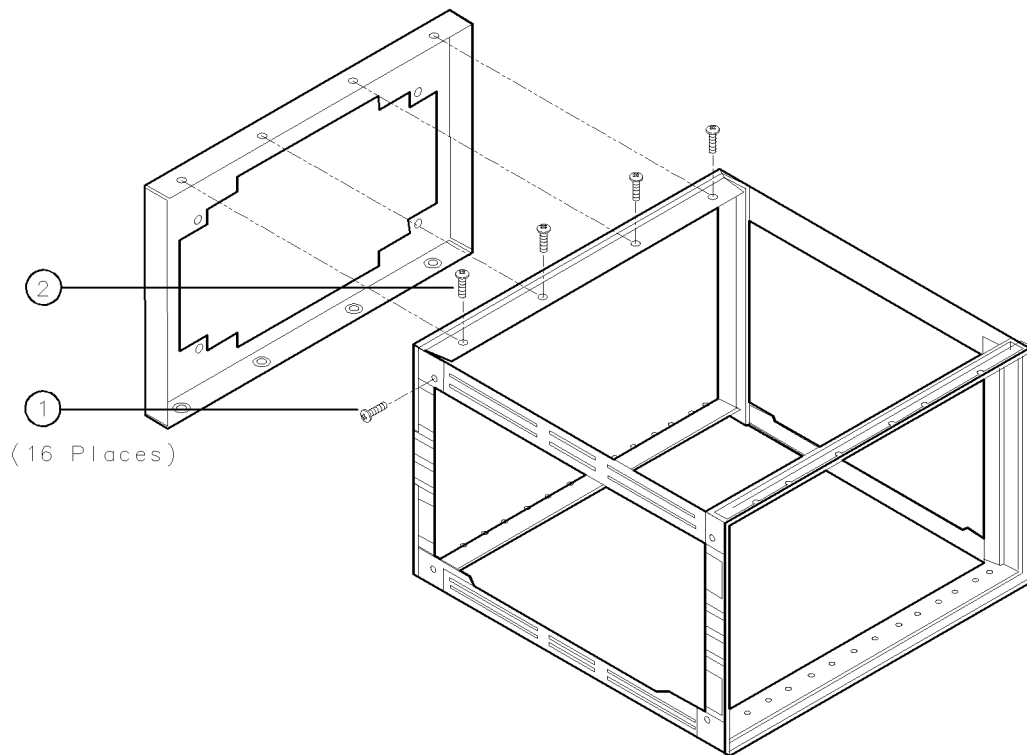

Figure 2. Assembling the Rack Frame
- Assemble the rack kit frame as illustrated in Figure 2, using 16 (four on each side) M4 6 mm flat-head screws (see ① in Figure 2) and eight M3.5 8 mm pan-head screws. (See ② in Figure 2.)